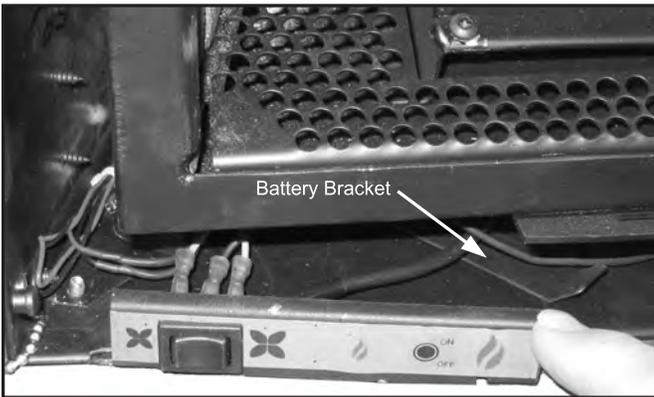

Figure 11: Control Panel Removal.
2. Pull the control panel straight out (see Figure 11). There are two (2) tabs on the bottom of the panel that fit in two (2) slots in the Sonnet cabinet bottom.
3. Pull the battery bracket to the left and forward; it will pivot out (see Figure 11 & 12).
4. Replace the four (4) 1.5V "AA" batteries and reverse steps 2 and 3.